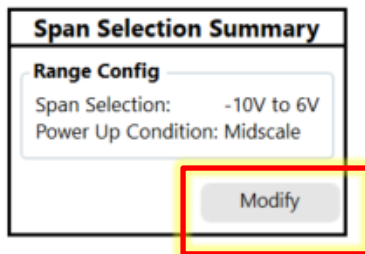

Figure 20 Span Selection Summary
1. On the Span Selection click the Modify button as shown on Figure 20.